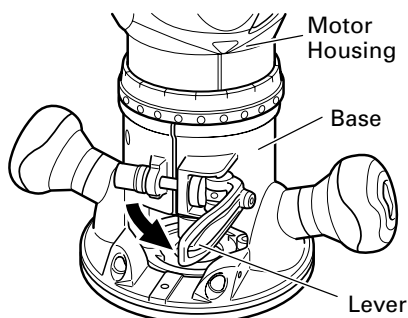
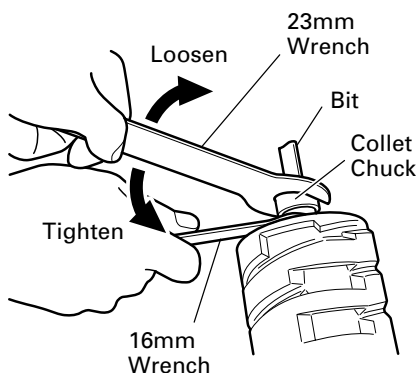

Fig. 2
Fig. 3
- (1) Remove the motor housing from base as follows.
- (a) Open the lever. (Fig. 2)
- (2) Clean and insert shank of bit into the collet chuck until shank bottoms, then back it out approximately 1/16" (approx. 2 mm).
- (3) With the bit inserted and 16 mm wrench holding the armature shaft, use the 23 mm wrench to firmly tighten the collet chuck in a clockwise direction (viewed from under the router). (Fig. 3)
- (4) When using the 1/4" diameter shank bit, replace the equipped collet chuck with the one for 1/4" diameter shank bit which is provided as the standard accessory.